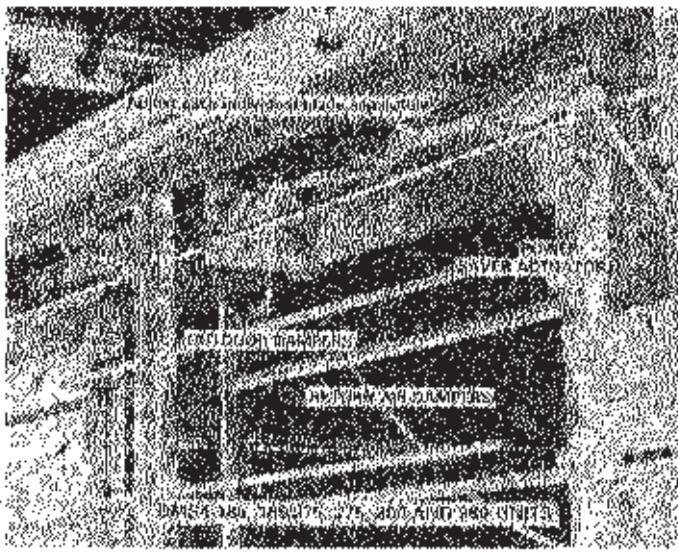
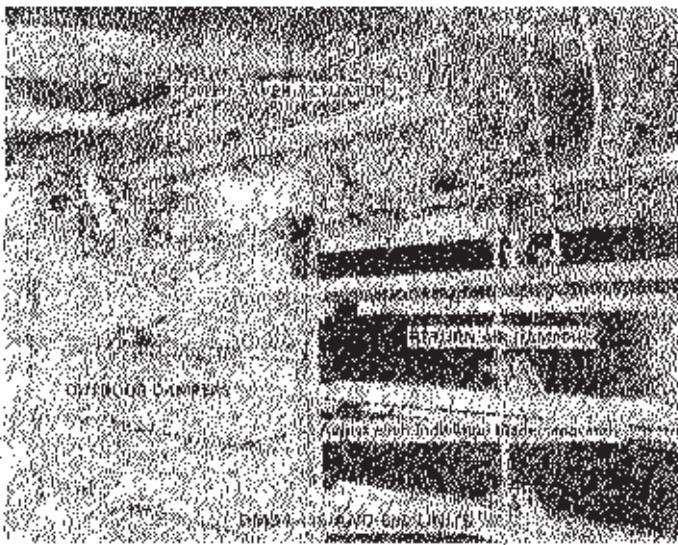

FIGURE 61
FIGURE 62
- 1 - Remove the lead from terminal 1R at outdoor actuator to drive outdoor dampers closed and return air dampers open. Adjust each individual damper blade separately. Refer to Figure 61 for -185, 205, 300 & 360 units or Figure 62 for -415 & 600 units.